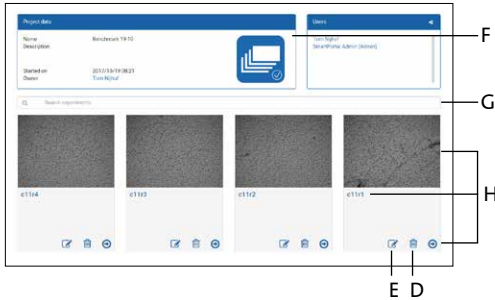

Figure 23. Overview of all experiments assigned
After selecting a project (C), you will get access to an overview of all experiments assigned to that project (Figure 23). At the top, you can see an overview of the project data (F). As with the project overview, use the 'Search' bar (G) to find a specific experiment within a project.